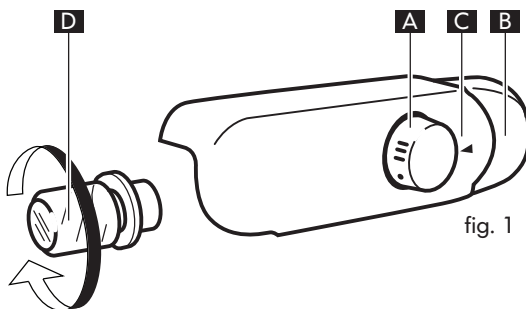

fig. 1
- If the refrigerator compartment of your appliance is fitted with a thermostat box the temperature of both compartments is adjusted using the thermostat knob as shown in figure 1. Move the knob to the ● position to switch the whole appliance off.
- If in addition to the internal thermostat box your appliance also has an external control panel with an adjustment knob, the temperatures of the two compartments must be adjusted separately. The knob of the thermostat inside the refrigerator compartment is used for adjusting the temperature of the refrigerator compartment only (see fig. 1), while the external panel is used to adjust the temperature of the freezer compartment.